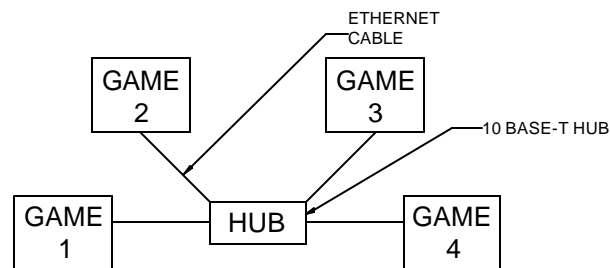
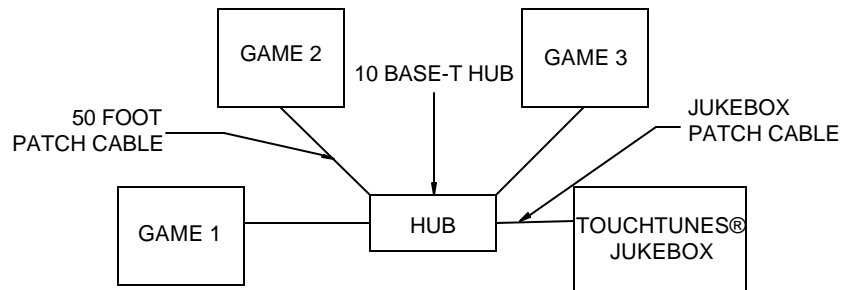

FIGURE 17 – LINKING THREE OR MORE MEGATOUGH GAMES
FIGURE 19 - LINKING MORE THAN ONE MEGATOUGH GAME AND A JUKEBOX
4. Plug the free ends of the Ethernet cables into a 10 BASE-T Ethernet hub (available from your distributor as a separate part, EC0030-01, or at your local computer store). See Figure 17. If you are linking a game to a TouchTunes® jukebox, plug the free end of the jukebox patch cable into the hub. See Figure 19.